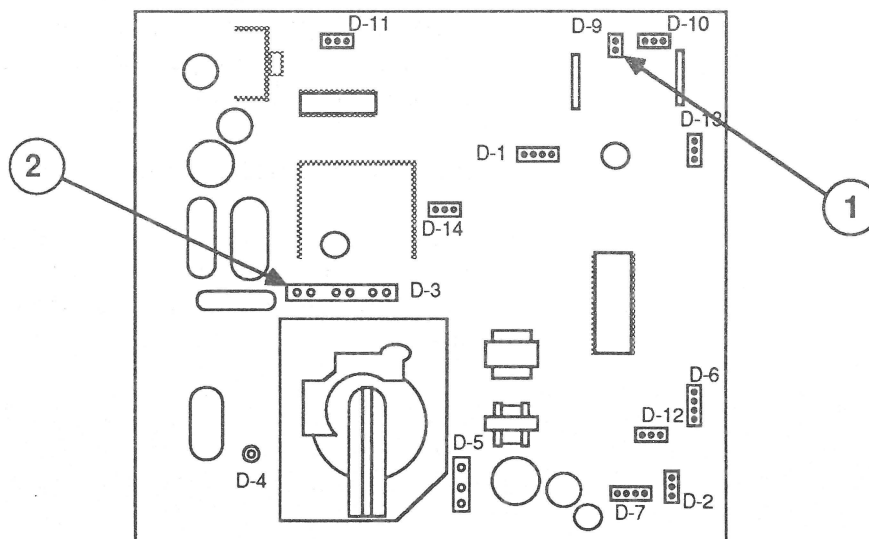

FIGURE 40
7. Reconnect to main logic board "D" the connectors listed in Table 7 and shown in Figure 40.